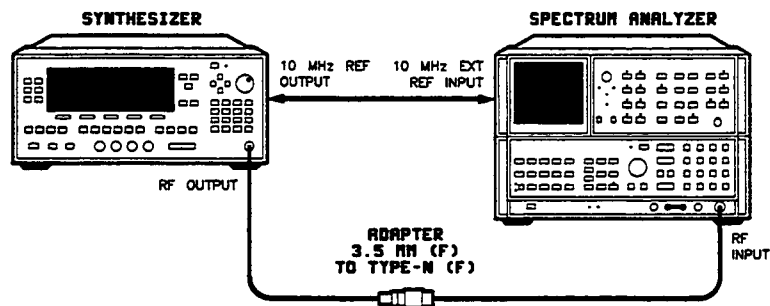

Figure 2-9. Spurious Signals (Harmonic) Test Setup
1. Preset the instruments shown in figure 2-9 and let them warm up for at least one hour.
3. Connect the equipment as shown in figure 2-9.